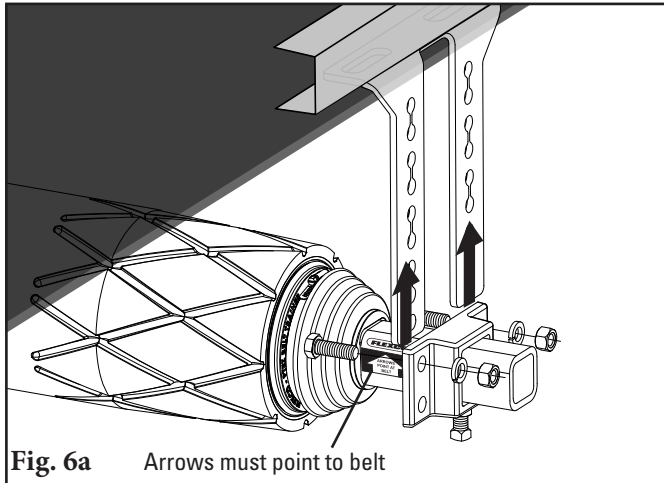
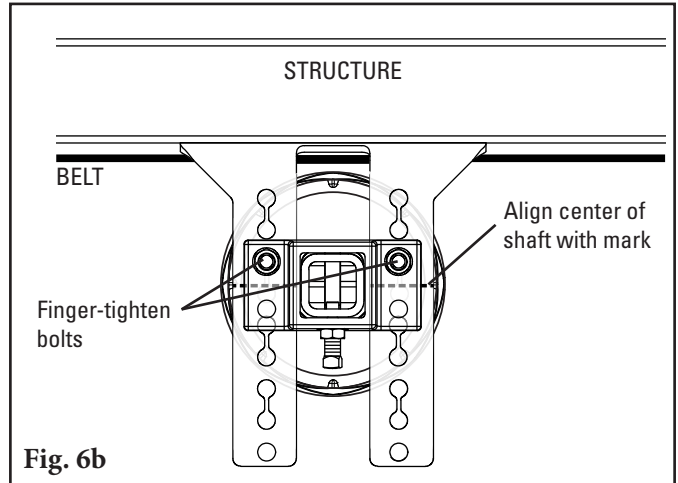

Fig. 6a Arrows must point to belt
Fig. 6b
6. **Lift the roller and main shaft bracket assembly.** Be sure to use safe and secure lifting procedures to lift the PTEZ into position. Ensure the arrows on main shaft label point up or down towards the belt (Fig. 6a). Align center of shaft with mark on mounting bracket (from Step 1) and finger-tighten bolts between the mounting bracket and main shaft bracket (Fig. 6b).
- Lift the roller and main shaft bracket assembly.** Be sure to use safe and secure lifting procedures to lift the HD PTEZ into position. Ensure the arrows on main shaft label point up or down towards the belt (Fig. 6a). Align center of shaft with mark on mounting bracket (from Step 1) and finger-tighten bolts between the mounting bracket and main shaft bracket (Fig. 6b).